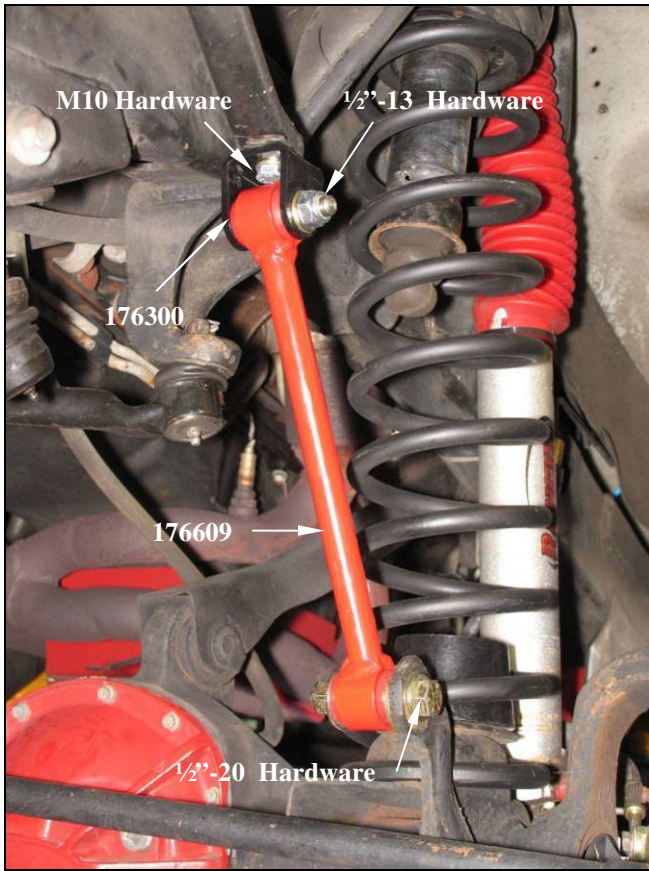

Figure 11
- 4)  Connect the lower mount of end link 176300 using the 1/2"-20 x 2.75" bolt, 2 USS 1/2" washers and 1 SAE 1/2" washer. The 2 USS washers should go on either side of the end link bushing to retain it properly. See Figure 11 for details. Do not torque yet.
- 5)  Attach clevis bracket 176300 to the bottom side of the sway bar at the end link mounting hole. Installing the bolt from the bottom side, use the M10-1.25x35mm bolt, 2 M10 washers and 1 M10 top-lock nut from hardware kit 860684. Torque to 32 ft-lbs. See Figure 11 for details.